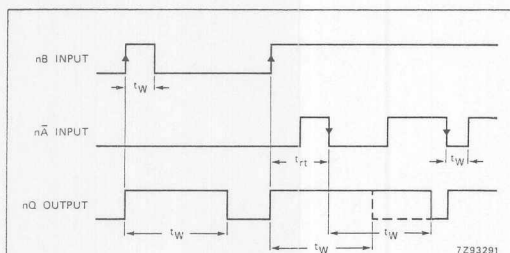
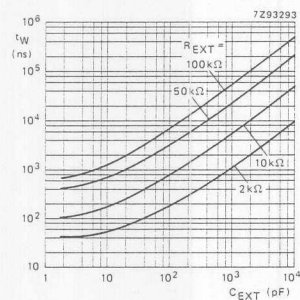

Fig. 7 Output pulse control using retrigger pulse; $n\bar{R}_D = \text{HIGH}$.
Fig. 9 Typical output pulse width as a function of the external capacitor values at $V_{CC} = 5.0\text{ V}$ and $T_{amb} = 25^\circ\text{C}$.
Figures 7 and 8 illustrate pulse control by reset. The basic output pulse width is essentially determined by the values of the external timing components R_{EXT} and C_{EXT} . For pulse widths, when $C_{EXT} < 10\,000\text{ pF}$, see Fig. 9.
1. For other R_{EXT} and C_{EXT} combinations see Fig. 9.